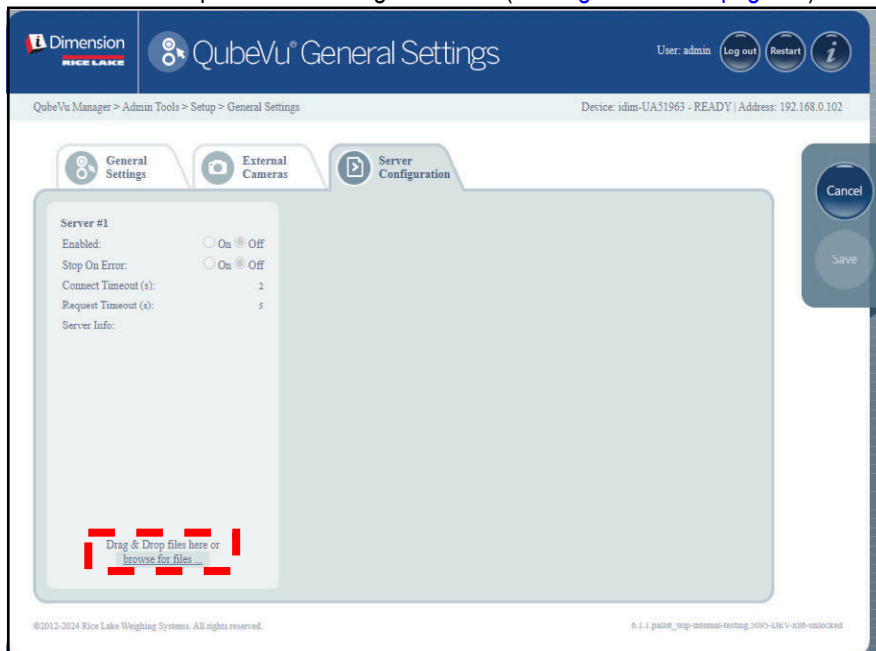

Figure 5-10. Server Configuration Tab
- Select **browse for files...** to pick server configuration file (see Figure 5-10 on page 28).